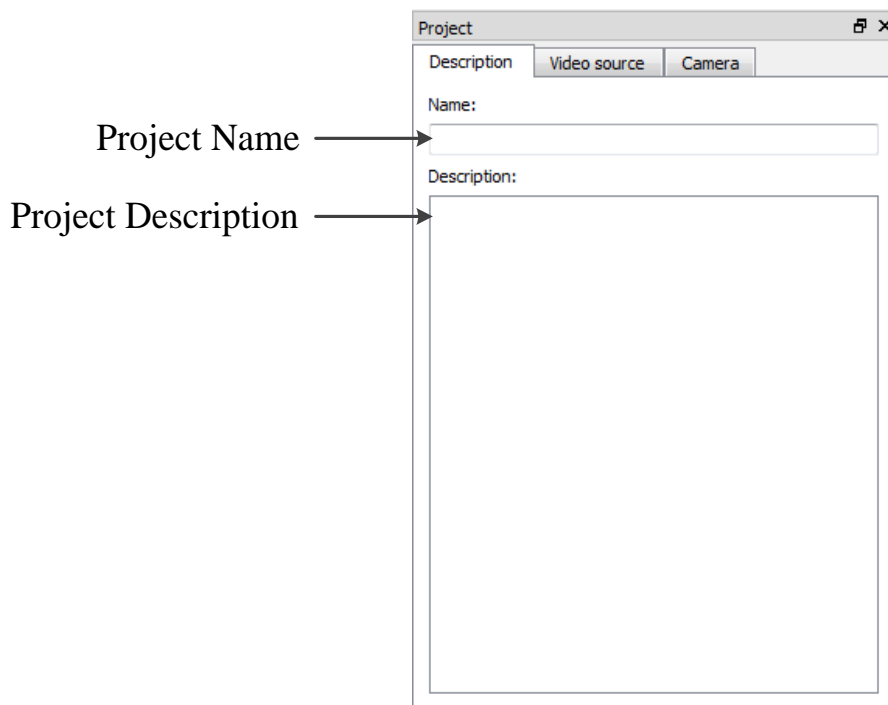

Figure 24 : New project window
2. A project window as shown in Figure 24 will be opened.